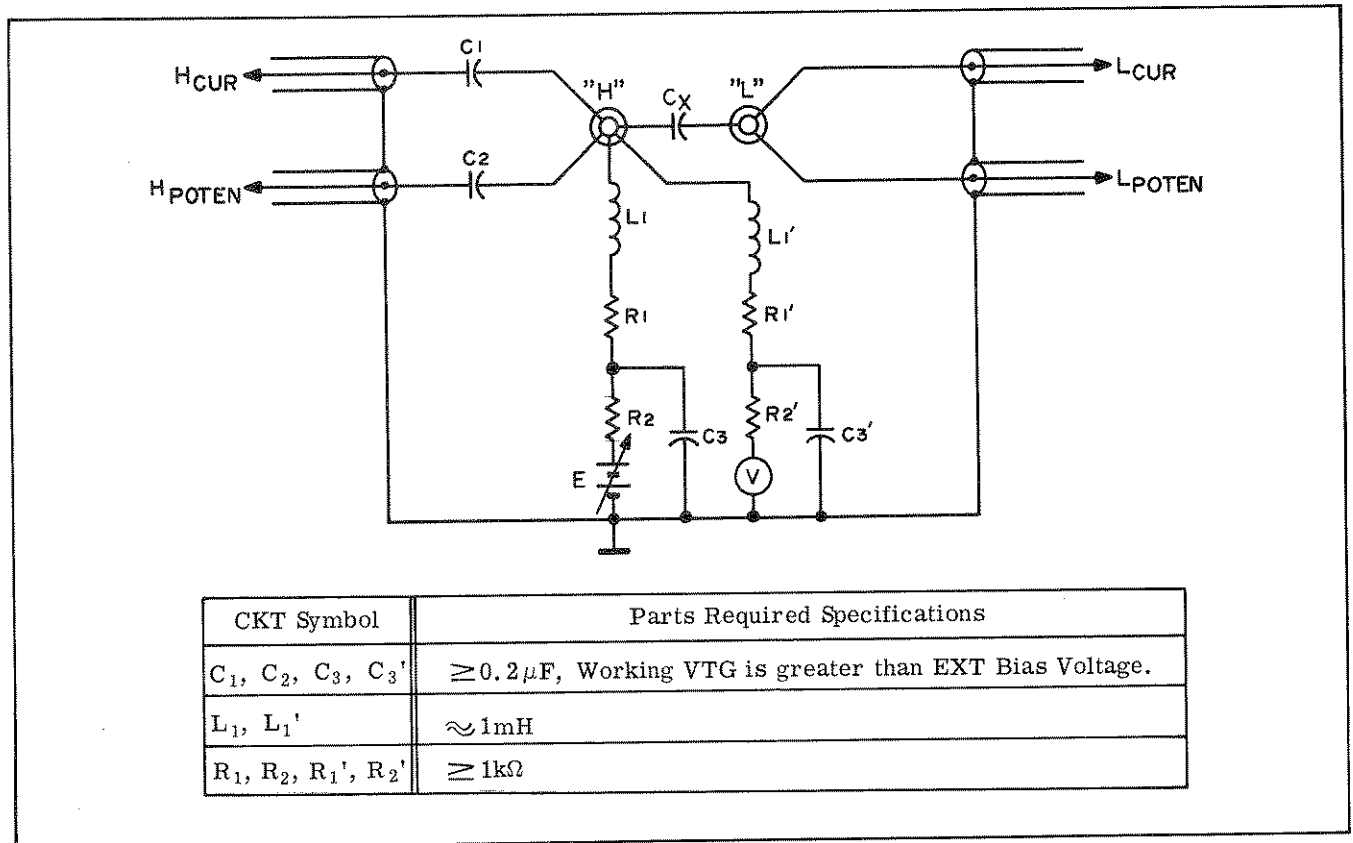

Figure 3-10. External Bias Circuit ($E \geq 200V$).
- b. To use bias voltages greater than 200 volts an external circuit is used. Figure 3-10 shows such a recommended circuit. The bias voltage is limited to maximum working voltages of the unknown capacitor C_x and the blocking capacitors C_1 and C_2 .
- c. To monitor the voltage another filter section consisting of L_1' , R_1' , R_2' and C_3' is added as shown in Figure 3-10 for connection voltmeter.